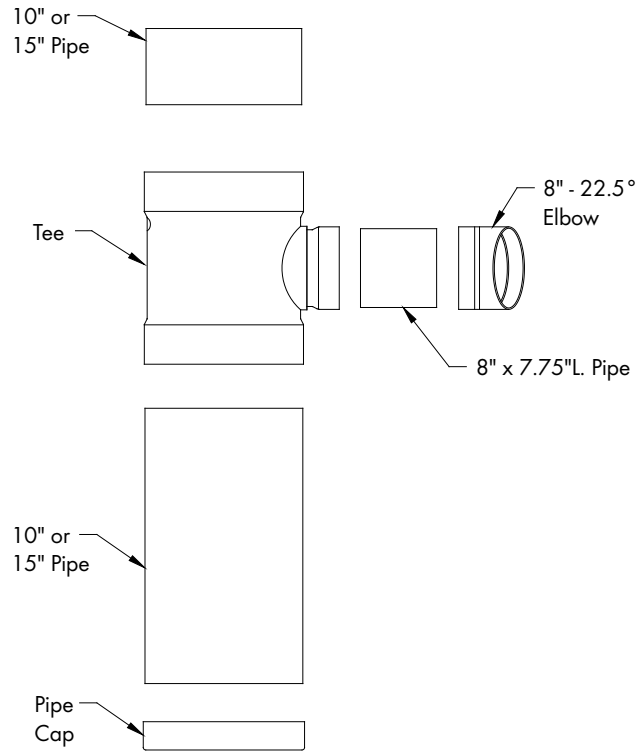

Figure 10A
Prepare the Tee, Pipe Nipples and Pipe Cap in accordance to PVC primer and cement directions and assemble the (2) Pipe Nipples, Tee and Pipe Cap. See Figure 10A.